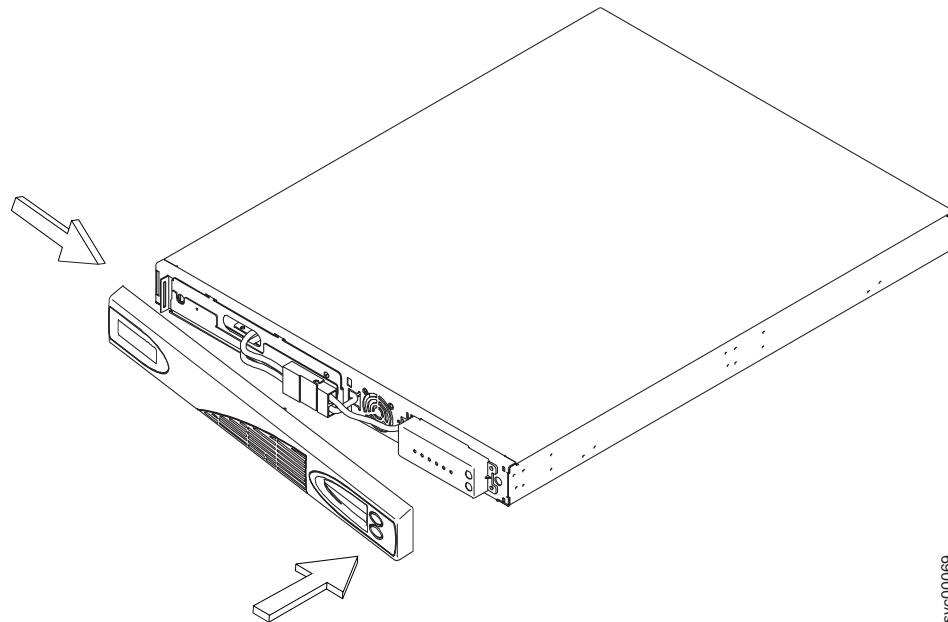

Figure 253. Replacing the 2145 UPS-1U front panel
3. Connect the internal battery connector, as shown in Figure 253 on page 259. Each end of the keyed connector has two wires: one red (+) and one black (-). Join the black wires and the red wires together.
4. Push the front panel to the right to catch on the left end of the panel. Push the front panel forward until the panel snaps into the right and middle sections of the 2145 UPS-1U, as shown in Figure 253.